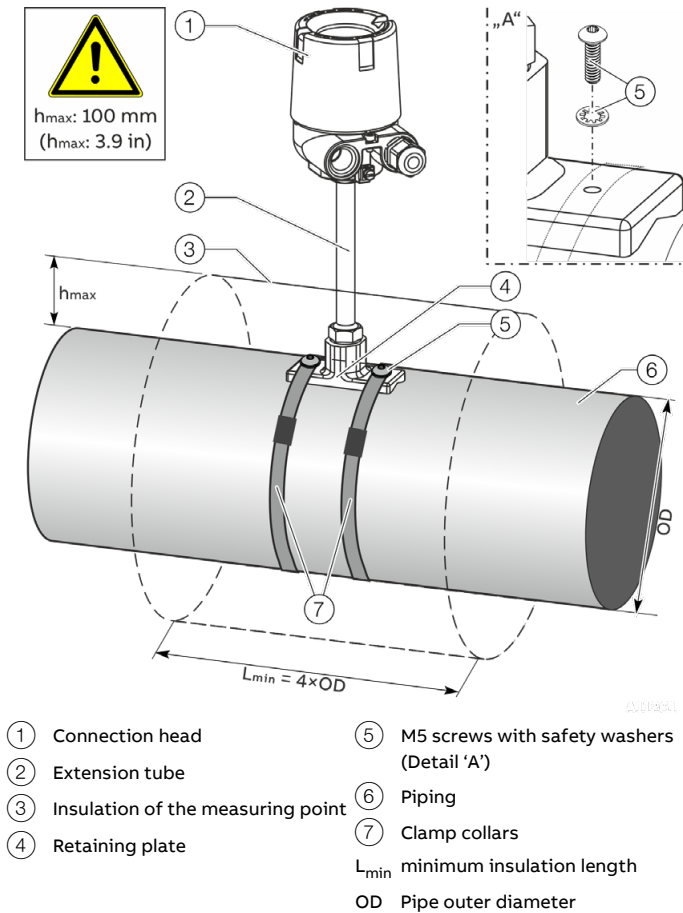

Figure 12: Assembly on piping (example)
Follow the mounting instructions carefully ensuring to loosen the nut on the head before mounting the device (see **Figure 12** on page 26). This ensures that the contact sensor tip will not get damaged or bent and that a good and repeatable contact of the sensor is made once the final tightening of the head is completed.
Insulation of the piping around the measuring point is recommended for any installation to ensure that the pipe surface temperature correlates to the process temperature without convective losses to the environment. Ambient conditions like rain will affect the pipe surface temperature and the corresponding relation to the true process temperature. Typical insulation should be at least $2 \times$ outer diameter (OD) of the piping on either side of the sensor mounting position with a thickness of at least 3 cm (see **Figure 12**). Mineral wool or particle foam (PET) based insulations are typical forms of insulating material that can be used.
- Insulate measuring point to the height ' h_{\max} ' as presented in **Figure 12** only.